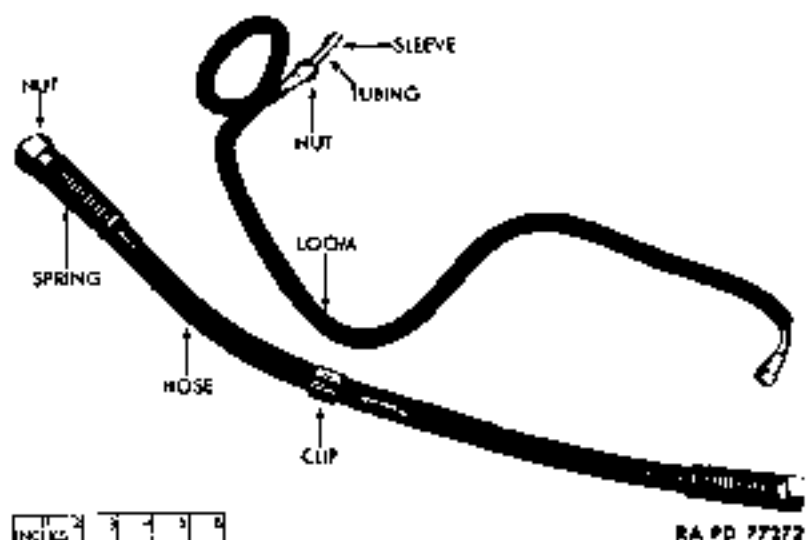

Figure 71 - Air System Tubing and Hose
a. **Description** (fig. 71). Heat-treated copper tubing is used throughout for the air brake system. Connections are of the sleeve and nut type, and points requiring flexible couplings are provided with heavy rubber hose furnished with detachable fittings.